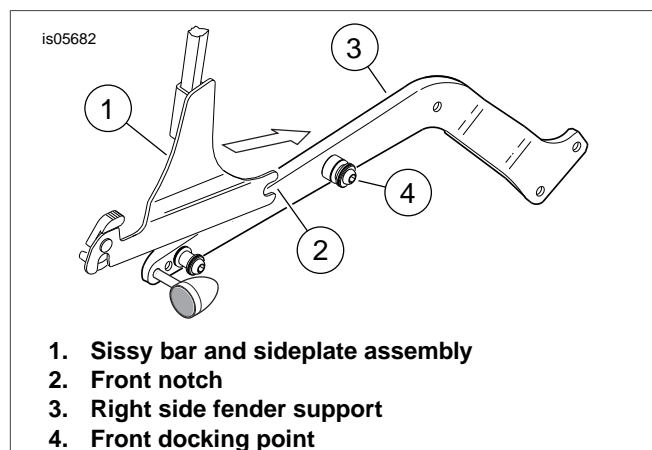

Figure 1. Place Front Notches into Front Docking Points
- See Figure 1. While standing behind the motorcycle, place the left-side and right-side front sideplate notches (2) into the front docking points (4) on the fender supports (3).